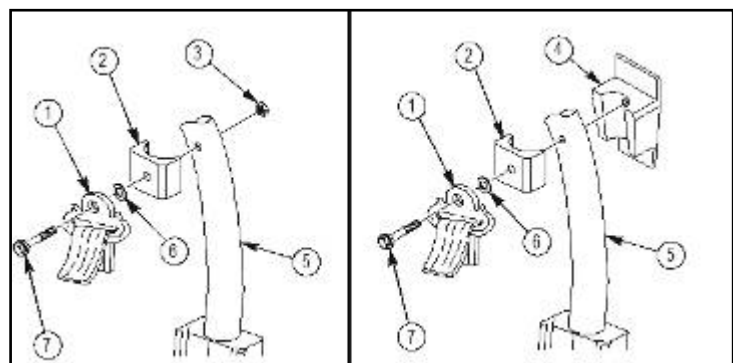

Figure 11a.
1. Remove existing locknut (3), shoulder bolt (7), washer (6), and seat belt D-ring (1) from turret support tube (5) as shown in figure 11a. Discard locknut (3).
2. Ensure D-ring mounting bracket (2) is in mounting position, and install 6435193-01M1 left turret support tube bracket subassembly (4) and existing seat belt D-ring (1) with existing washer (6) and shoulder bolt (7) as shown in figure 11a. Hand tighten shoulder bolt (7) until snug.